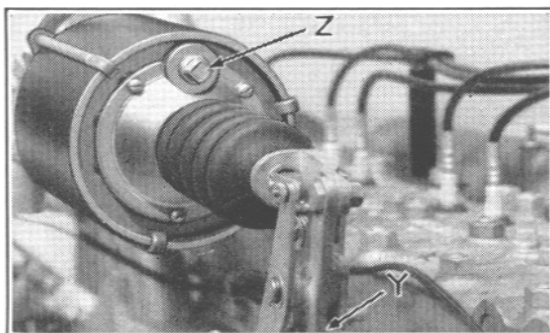

Figure 38
LUBRICATION — Vacumotive Drive linkage connections should be lubricated every 1,000 miles with a few drops of light engine oil. Also apply a few drops in the mounting bracket pivot hole (Y), Fig. 38.